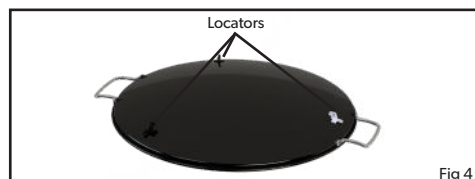

Fig 4
- To prepare the Skottel Braai for use place it onto the burner pan (F) so that all three locators (V) (Fig.4) will properly mate with the lip on the circumference of the burner pan (F) thus ensuring a stable fitment.